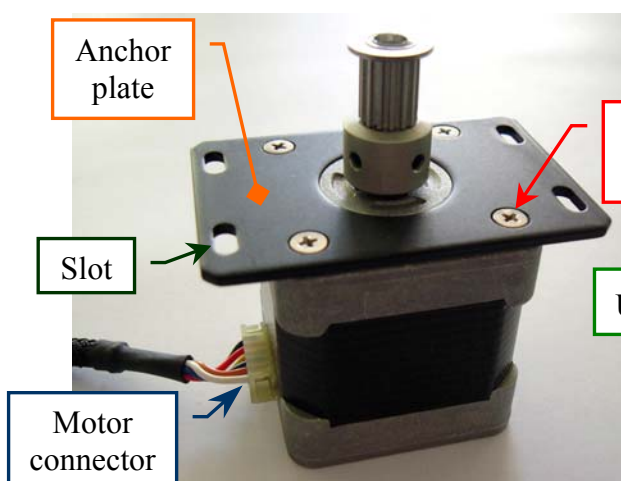
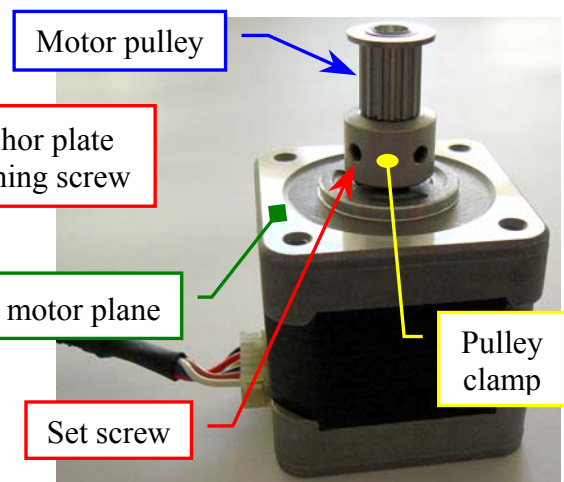
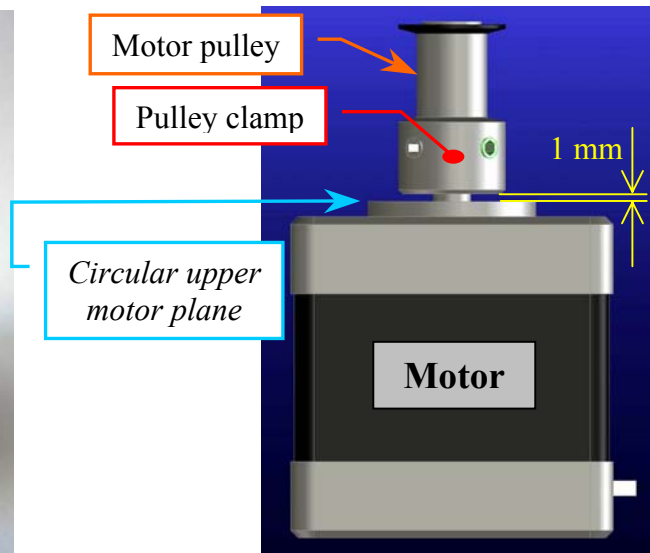

Fig. 13 – Horizontal Mov. Arm Motor anchor plate
Fig. 14 – Horizontal Mov. Arm Motor [P/N: 10-00399-00]
Fig. 16 – Plate Motor (scheme)
5. Unscrew the four fastening screws of the Horizontal Mov. Arm Motor anchor plate (**Fig. 13**) and take out the anchor plate from the motor.
6. Loosen the two set screws of the pulley clamp and extract the pulley clamp and the pulley (**Fig. 14**) from the motor shaft.
7. Insert the pulley clamp completely on the motor pulley and then insert all two on the motor shaft (**Fig. 14**).
8. Position the motor pulley to **1.00 mm** with respect to circular upper motor plane (**Fig. 16**), then tighten the two pulley clamp set screws (**Fig. 14**).
9. Position the anchor plate on the upper plane of the new Horizontal Mov. Arm Motor (**Fig. 14**) with either anchor plate slots sides on the side of the motor connector (as showed in the **Fig. 13**) and screw its four fastening screws.